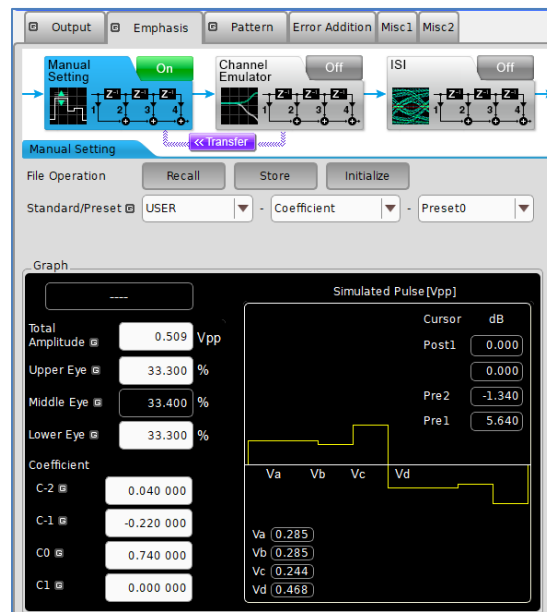

FIGURE 95. MU196020A (SLOT 1, VICTIM) EMPHASIS SETTINGS
- For the “Coefficient” settings, set the “C-2”, “C-1”, “C0” and “C1” values according to the COM calculation results for the “**TXLE_taps**” [C-3 C-2 C-1 C0 C1] information. Figure 95 below shows an example of the coefficient settings for TXLE_taps [0 0.04 -0.22 0.74 0].